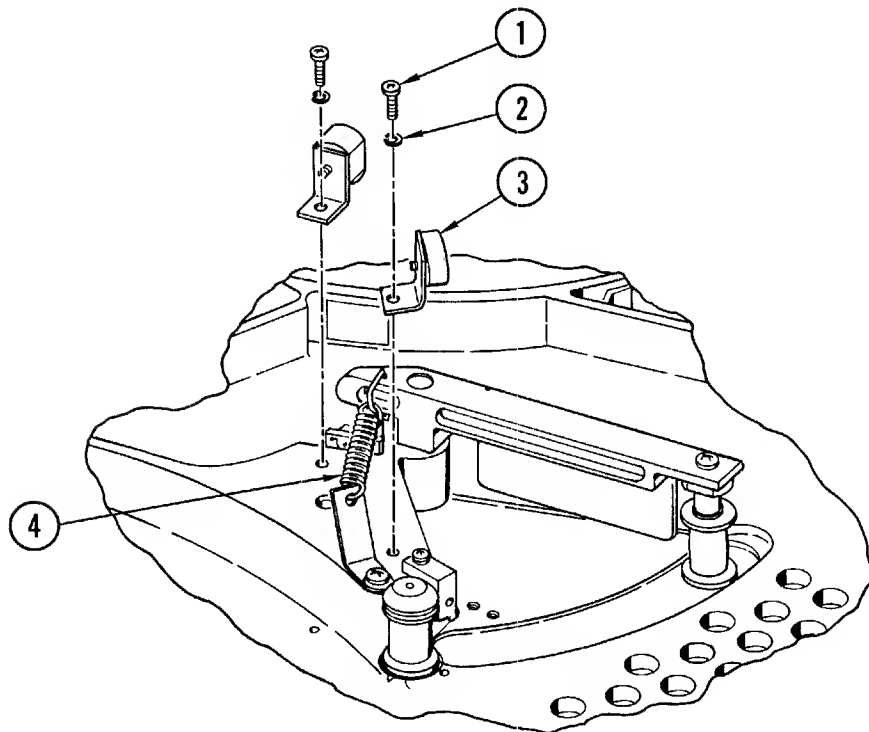

Figure 4-20. Compliance Arm Bumper Assembly
4-34. **Removal and Replacement (Figure 4-20).** With the transport in operator maintenance position (paragraph 4-2), proceed as follows:
- a. Remove screw (1, Figure 4-20), lockwasher (2), and bumper assembly (3).
- b. Reinstall in reverse order of removal, and adjust to contact compliance arm squarely. Ensure spring (4) does not touch bumper in the compliance arms full arc of travel. Reposition bumper to clear spring if required.